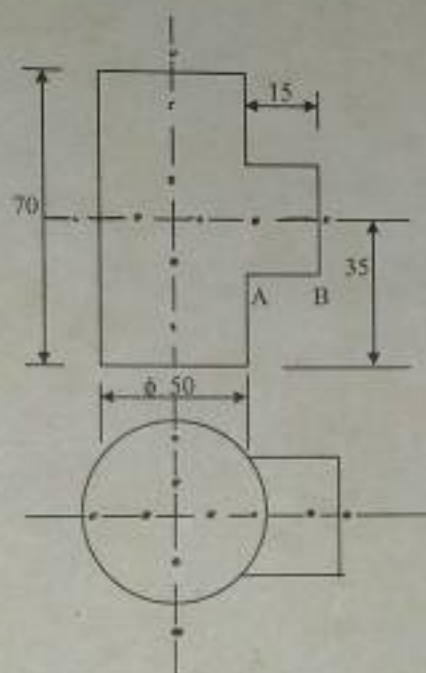

Fig. 4
6. Fig. 4 shows a cylinder 50 mm diameter and 70 mm high. It intersects at right angles with another cylinder of 40 mm diameter. Draw the curve of penetration and the development of the smaller cylinder joining along A - B.